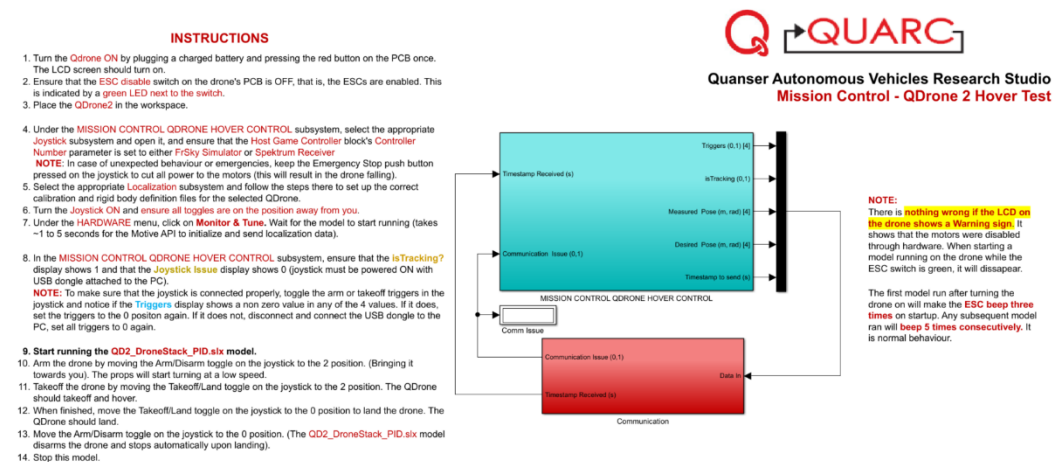

Figure 4. Mission Control Model
7. Open a different MATLAB instance and from this window, in the same folder containing this file, open the folder QDrone Hover Test, and open QD2_MissionCtrl_Hover_2021a.slx (Figure 4).